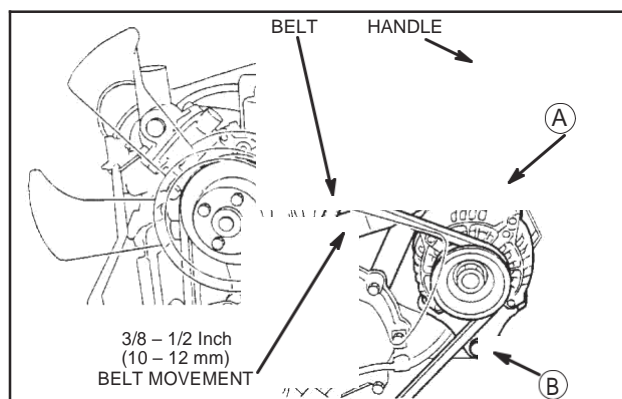

Fig. 41 – Adjusting V-belt
4. Install V-belt, Fig. 41.
5. Install alternator bolts (A) and (B).
- a. Torque bolt (A) to 19.0 Nm (170 in. lbs.).
- b. Torque bolt (B) to 61.0 Nm (45 ft. lbs.).